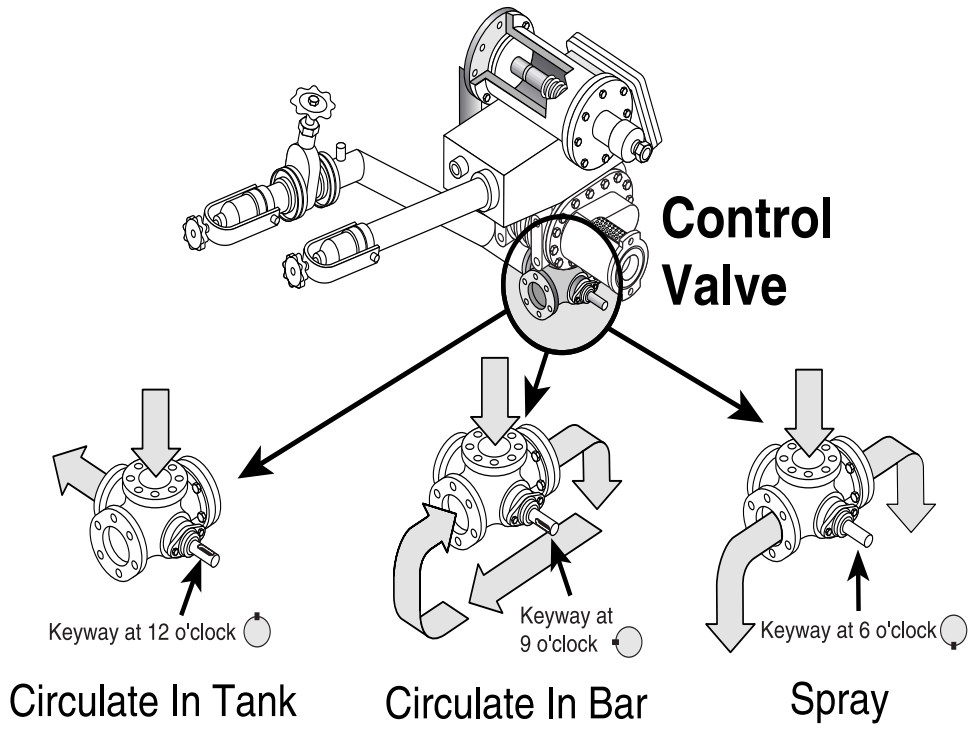

Figure 1
- 1) Make sure 4-way Valve is in Circulate in Bar position (keyway at 9 o'clock) with Master Spray Switch (Off). Refer to Figure 1 & 2
- 2) With Master Spray Switch (On) 4-way Valve should rotate to the 6 o'clock position. Refer to Figure 1 & 2
- 3) Check to see if 4-way Valve is in time (Refer to Figure 1 & 2)